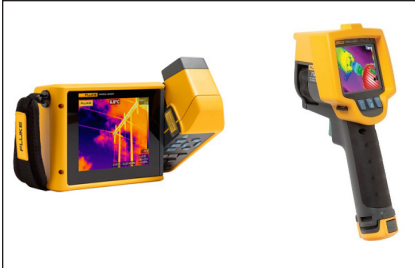

Figure 9
**Ergonomics/Ease of Use:** Often overlooked, but important, the camera must be simple and easy to use. Image adjustment, focusing, and basic operation must be intuitive. Complicated menu systems or cameras that make the most important, and often used, adjustments such as focus, level/span and image capture cumbersome to execute should be avoided. Will the instrument be comfortable to hold for an hour or two or even all day? Is it balanced properly or does it cause strain on arm, wrist or back? Will some controls induce repetitive stress? Can the camera be used by one hand and if so either hand or is it left or right handed preferential. One hand operation can be important in tight spaces or have a poor viewing angle? Can the camera be used easily with PPE including button control with gloves and when using a face shield? Will you be inspecting items near the floor or above your head? If so an articulating camera (Figure 9 left) may be preferential to a pistol grip camera (right).